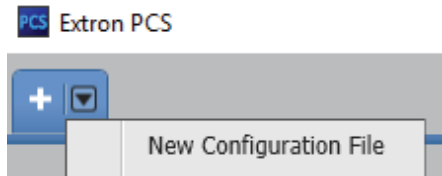

Figure 11. Configuration Drop-down List
1. In the **Start-up** tab drop-down list, select **New Configuration File** (see figure 11).